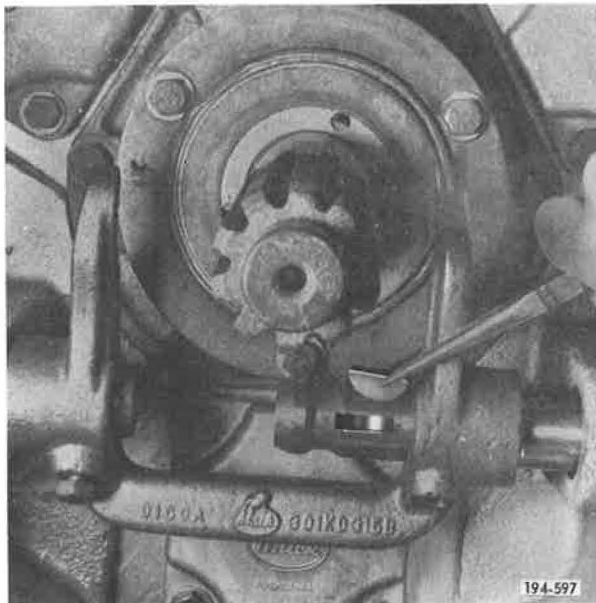

Figure 5-548. Installing Key
23. Tap splined clutch release shaft into housing from outside of housing. Insert Woodruff key. See Figure 5-548.